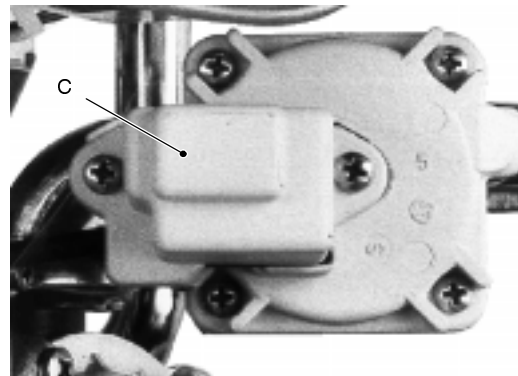

fig. 74
- 4 remove the lid C of the c/h flow switch (fig. 74);